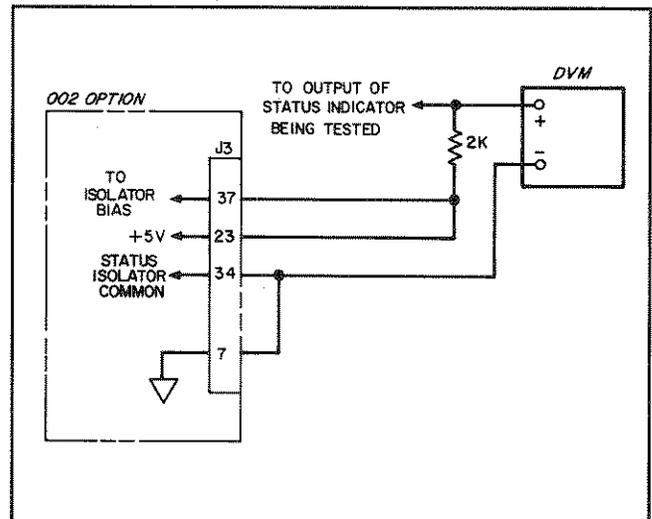

Figure A-13. Troubleshooting Status Indicators
**A-80 Troubleshooting Status Indicators.** The test set-up shown in Figure A-13 can be used to check each of the six status indicators. This set-up will temporarily defeat the isolation of the status lines. Before attempting to troubleshoot a status indicator, check for +5 V Bias for proper operation of the opto-couplers.
- Using test set-up, Figure A-13, connect to end of 2 k $\Omega$  resistor to J3-36.
- Using test set-up, Figure A-13, connect top end of 2 k $\Omega$  resistor to J3-35.
- Using test set-up, Figure A-13, connect top end of 2 k $\Omega$  resistor to J3-17.
- a. Using test set-up, Figure A-13, connect to end of 2 k $\Omega$  to J3-18.
- a. Using test set-up, Figure A-13, connect top end of 2 K $\Omega$  resistor to J3-19.
- d. Using test set-up, Figure A-13, connect top end of 2 k $\Omega$  resistor to J3-16.